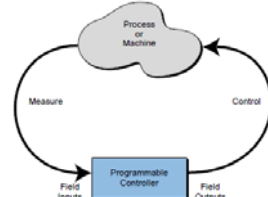

Figure 9.1 PLC conceptual application diagram.
- Figure 9.1 illustrates a conceptual diagram of a PLC application.